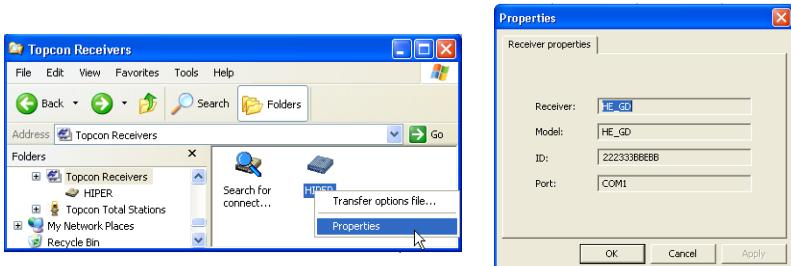

Figure 2-4. Receiver Properties
- To view information about the receiver (Figure 2-4), right-click the desired receiver and select the *Properties* option.